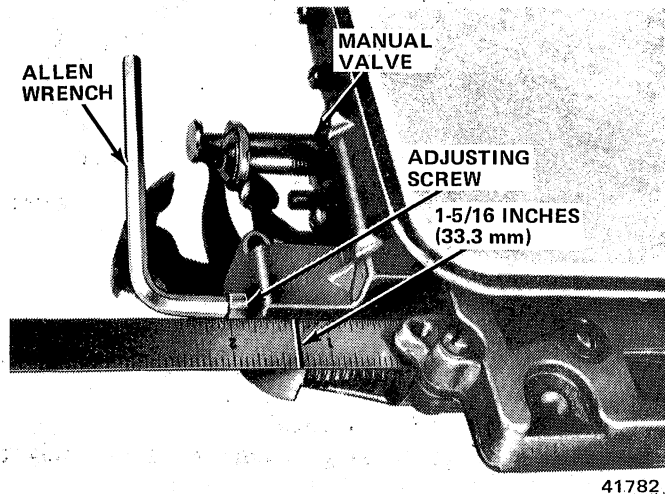

Fig. 2C-22 Line Pressure Adjustment
(1) Measure distance from valve body to inner edge of adjusting screw using accurate steel scale (fig. 2C-22).